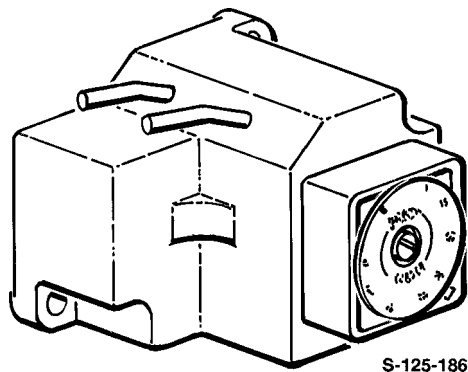

Figure 35. Reset or PRE-ACT Unit
1. Turn PRE-ACT adjustment clockwise to its stop to fully open the PRE-ACT needle valve, Figure 35.